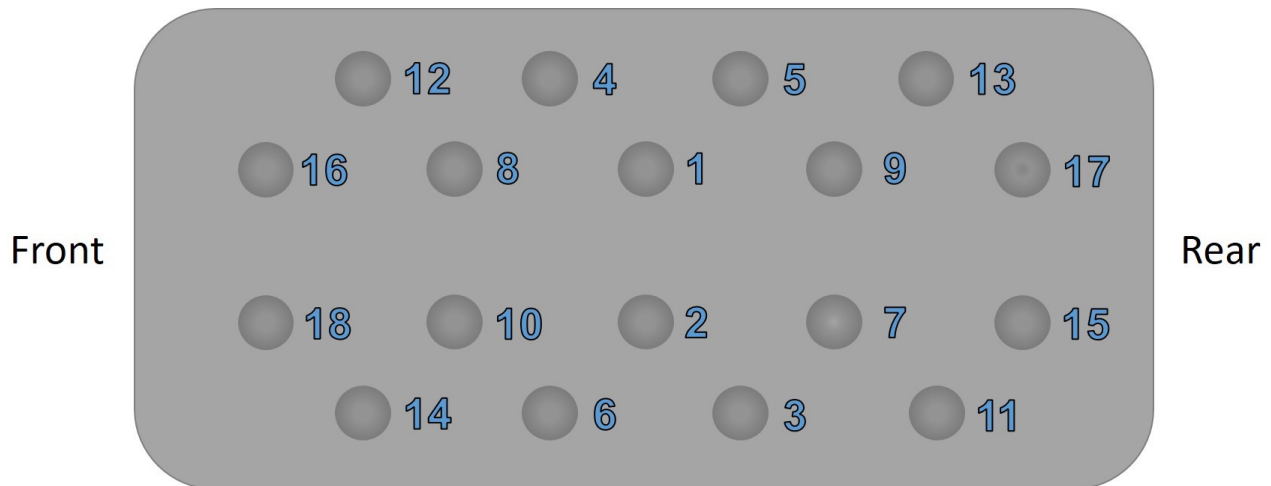

Figure 25: Cylinder Head Tightening Sequence
- Tighten all the cylinder head bolts to 50Nm following the sequence shown in **Figure 25**.
- Turn all the cylinder head bolts 60° clockwise following the sequence shown in **Figure 25**.
- Turn all the cylinder head bolts a further 60° clockwise following the sequence shown in **Figure 25**.